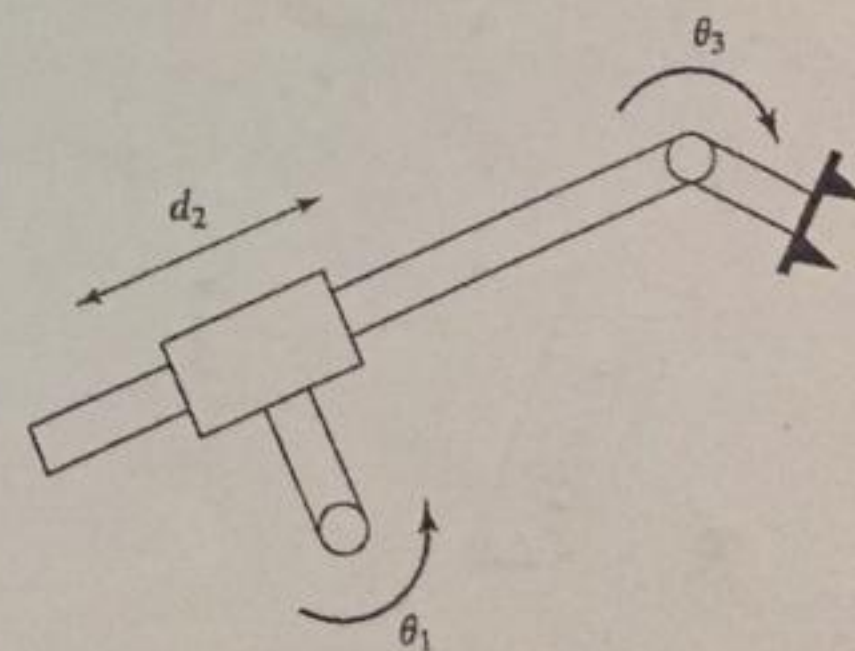

Figure 3: Q3
- Assign link frames to the RPR planar robot shown in Fig. 3, and give the linkage parameters